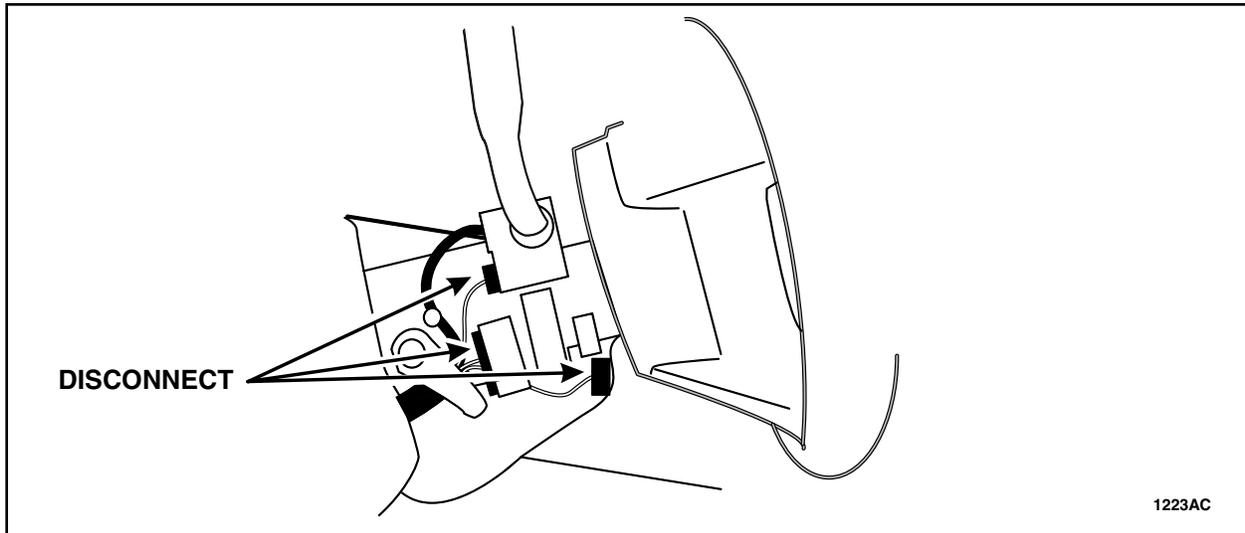

FIGURE 6
10. Disconnect the three connectors on the left side of the column. Remove the two harness pin-type retainers. See Figure 6.
36. Connect the three connectors on the left side of the column. Install the two harness pin-type retainers. See Figure 6.